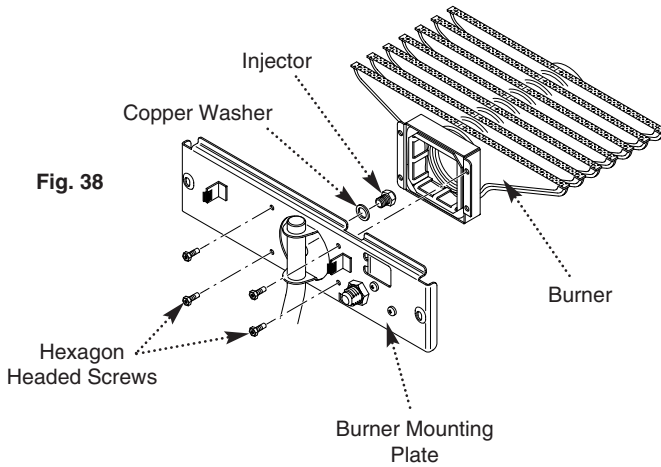

Fig. 38
1. Remove the four hexagon headed screws holding the burner to the burner mounting plate (Fig. 38).
2. Carefully clean any deposits from the burner blades and venturi inlet (Fig. 38).
3. Remove the injector and copper sealing washer from the feed pipe. Clean the injector and reassemble in reverse order (Fig. 38).